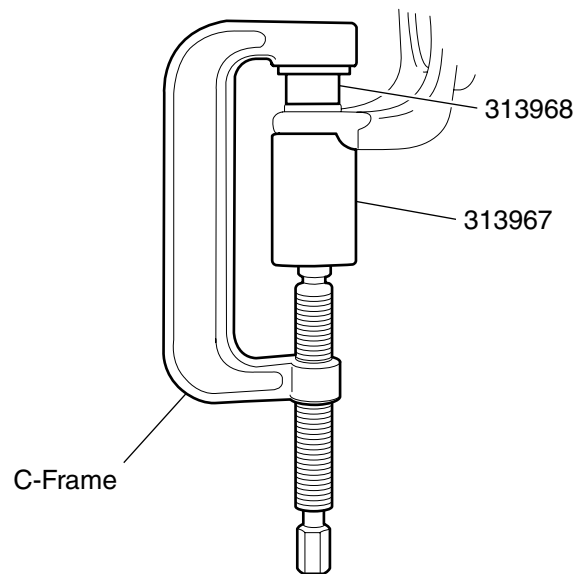

Figure 1. Ball Joint Removal
3. Position 313967 (or 38355A) and the C-Frame as shown in Figure 1.